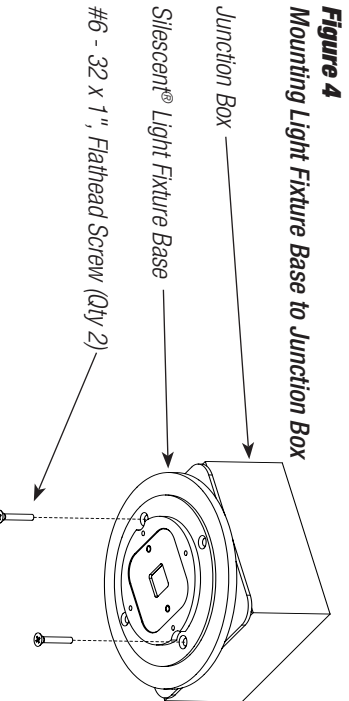

Figure 4
After completing the electrical connections, align the light fixture base (item 2) to the adaptor plate (item 1) so that two opposing mounting holes align with the ceiling box mounting provisions. Using two (2) of the provided mounting screws (item 8), secure the base to the ceiling box as shown in Figure 4 below. Do not over tighten fasteners.